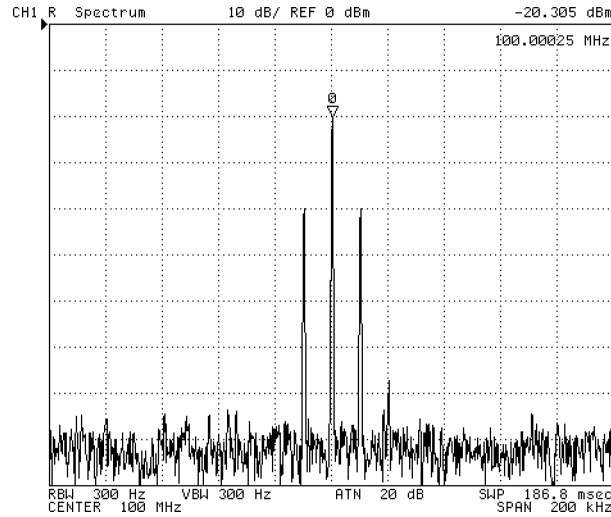

Figure 10-17. Carrier Amplitude and Frequency of AM Signal
2. Press **[MAX]** to search for the carrier signal. The carrier amplitude and frequency are displayed in the upper right corner as shown in Figure 10-17.